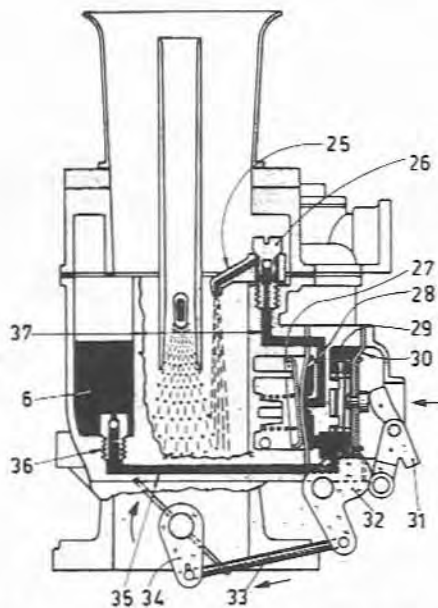

Fig. 8.8 Acceleration (triple choke types) (Sec 3)
Refer to Fig. 8.8 and note that when the throttle valves are closed, the spring (29) pushes the diaphragm (30) outwards and fuel is drawn from the float washers (6), through the inlet valves (36), along the channels (35) and into the pump chamber. When the throttle valves are opened, the lever (34) pulls the linkage (33) and the cam (32) causes the lever (31) to depress the diaphragm (30) against the tension of the spring (29). Fuel is forced past the release diaphragm (28) when the plate (27) moves against the reaction spring and then travels through the channels (37) to the delivery valves (26). It is then injected through the pump jets (25) into the carburetor barrels in the vicinity of the auxiliary venturis. The inlet valve(s) (23) may incorporate a calibrated discharge hole whereby some fuel returns to the float chambers; the size of the hole depending on the particular application.